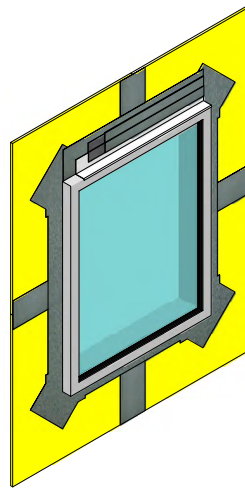

Figure 16
12. Install required accessories such as window head Flashing. Apply Senershield-R/-RS/-VB over the accessory and onto areas which will receive Sheathing Fabric. Cut Sheathing Fabric to desired size. Apply additional Senershield-R/-RS/-VB onto the Sheathing Fabric to embed. If necessary, apply a second coat. (See Figure 16)